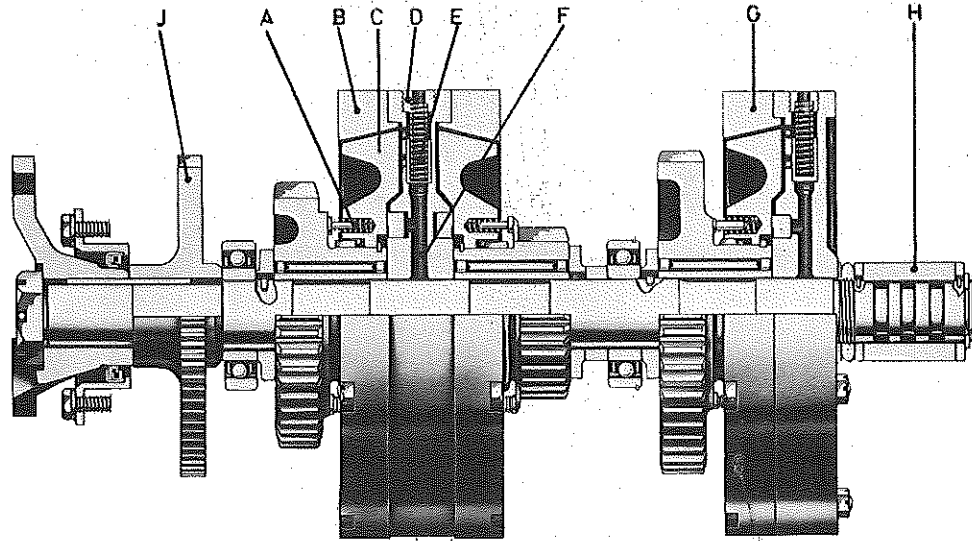

Fig. 33- CLUTCHSHAFT ASSEMBLY
The speed gears on the clutch shaft are free to rotate on roller bearings, and each is provided with a steel, conical clutch spinner (C Fig. 33) which is carried on splines and free to move axially. Bronze female cones (B) are carried on clutch housing (D) which is keyed to the shaft. The cones are normally held out of engagement by the axial springs (A).
An additional clutch assembly (G Fig. 33) is fitted on three speed boxes, its construction and operation being similar to that described above.